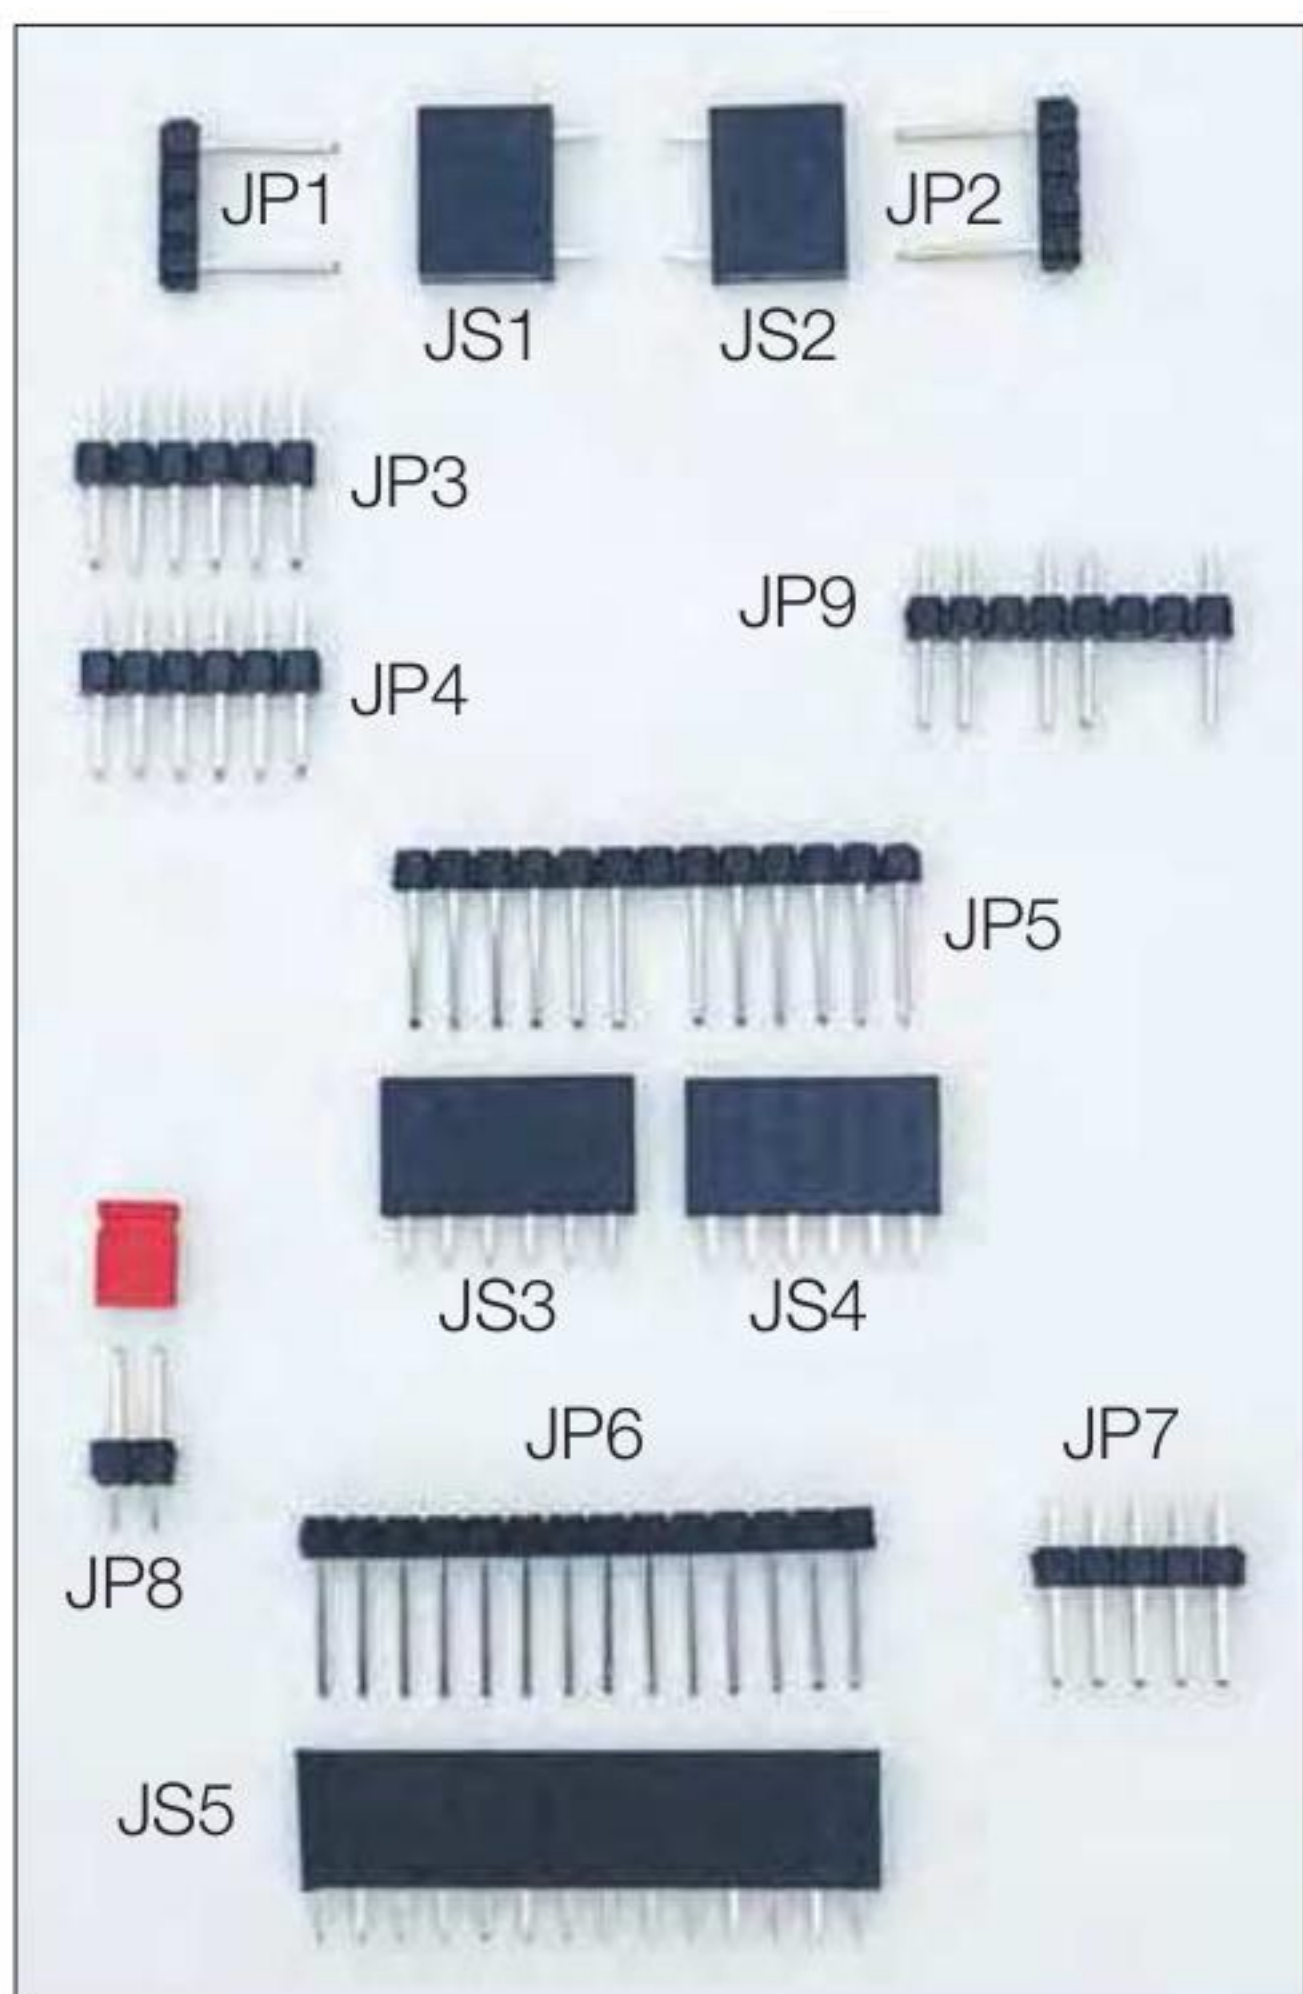

Fig.14. A complete set of connectors used in the robot buggy. Ensure you modify the connectors to match them as they are shown here.
- Pins and sockets (Fig.14) positioned in a precise manner making it easy to plug everything together, as detailed here: